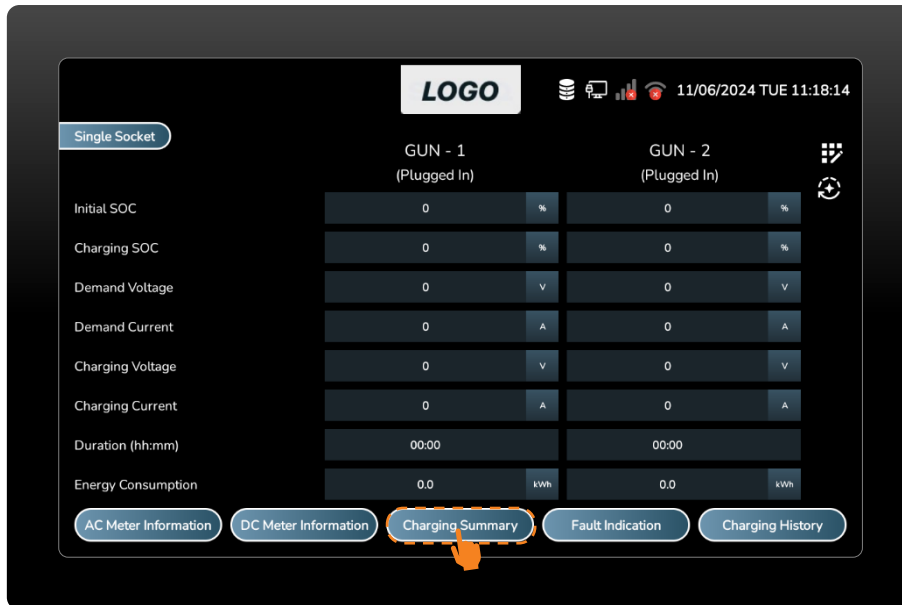

Figure 97 Press the Charging Summary Button.
- To get information about the charging summary, press the charging summary button. (Figure 97)